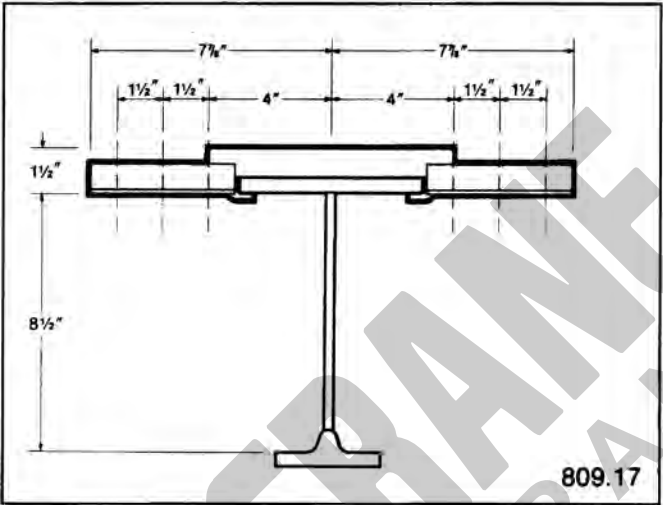

FIGURE 39
- 809.17 (Refer to Figure 39): For up to 8-wire (4-run) dual conductor bottom-entry electrification or 6-wire single conductor bottom-entry electrification at 8½" above operating flange surface of 604.924 *SuperTrack™ Girder*.